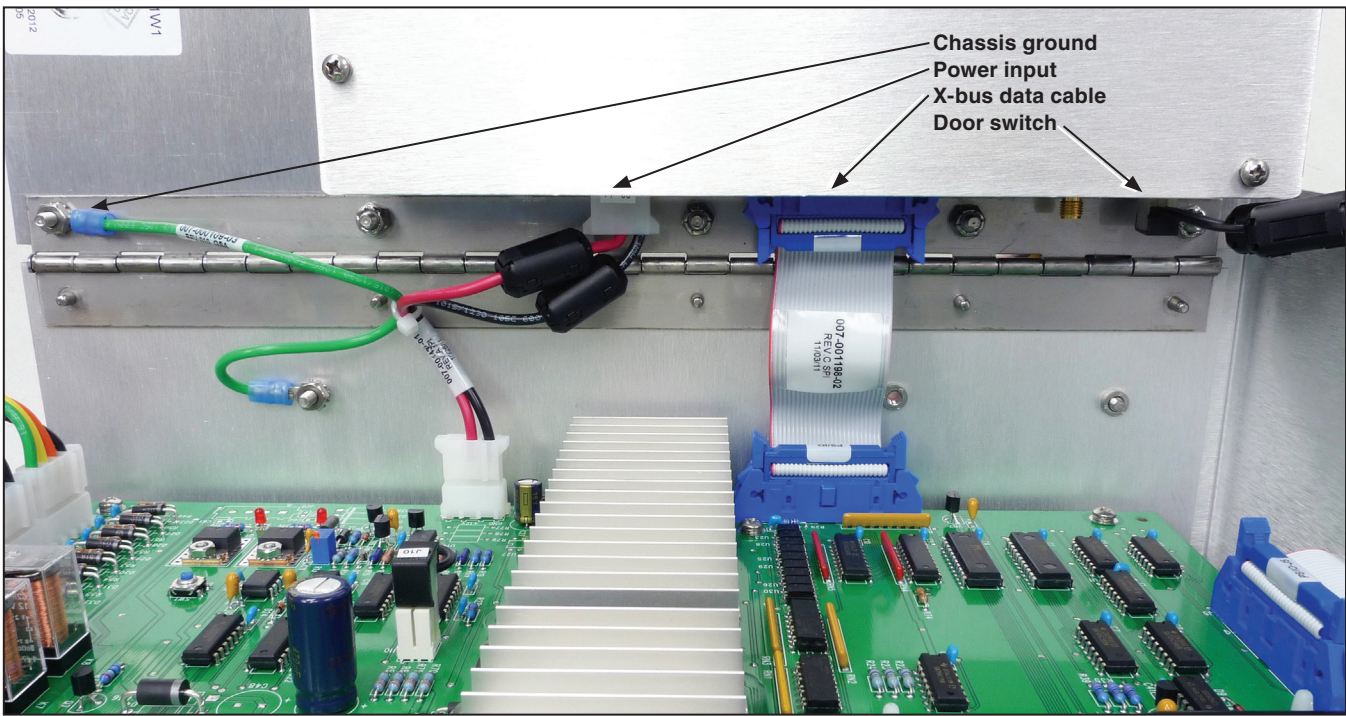

Figure 1. Connections to existing 5802 control faceplate processor board.
- STEP 2.** Disconnect all cables attached to the processor on the rear of the front panel, including the power connection, X-bus data cable, and door switch. See Figure 1.
- STEP 8.** Reconnect all cables that had been attached to the processor on the rear of the front panel, including the power connection, X-bus data cable, and door switch. See Figure 1 on page 7.